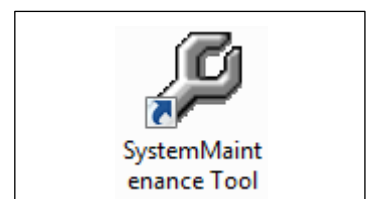

Fig. 3 Desktop icon of the Maintenance Tool
- If all these settings are correct, close ZEN and then start the System Maintenance Tool by clicking the desktop icon (Fig. 3).